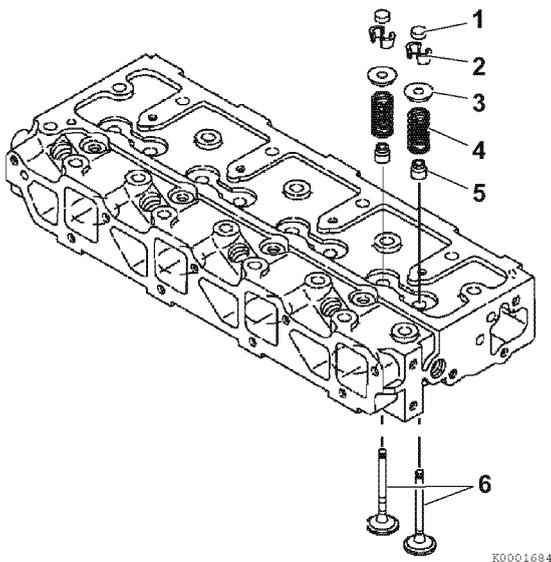

Figure 6-15
2. Remove the valve cap (1, **Figure 6-15**) and keep with the valve it was installed on.
4. Remove the valve keepers (2, **Figure 6-15**).
6. Remove the spring retainer (3, **Figure 6-15**) and valve spring (4, **Figure 6-15**).
8. Turn the cylinder head so the exhaust port side faces down. Remove the intake and exhaust valves (6, **Figure 6-15**) from the cylinder head.
9. Remove the valve stem seals (5, **Figure 6-15**).